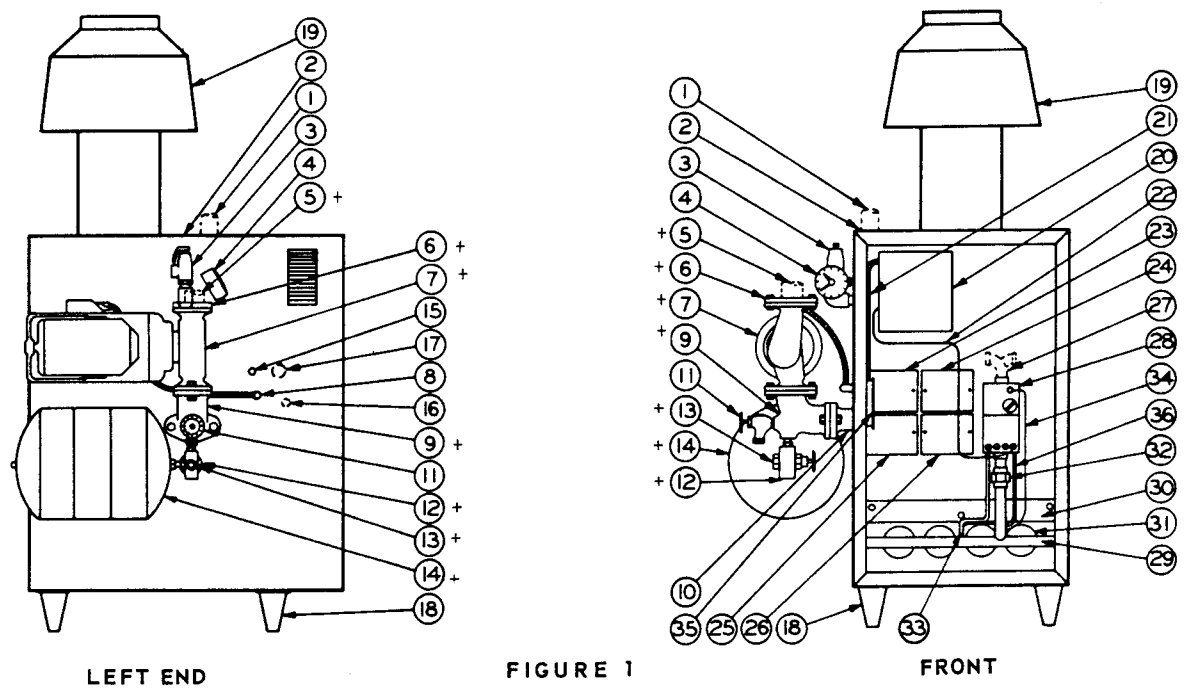

FIGURE 1
3. For Type P-CG boilers, connect the system return piping to the circulator counter flange (see Figure 1). The watertight seal between the circulator flange and circulator counter flange is maintained by a rubber "O" ring; where solder type fittings are used, be sure the "O" ring is not between the flanges while the solder connection is made.